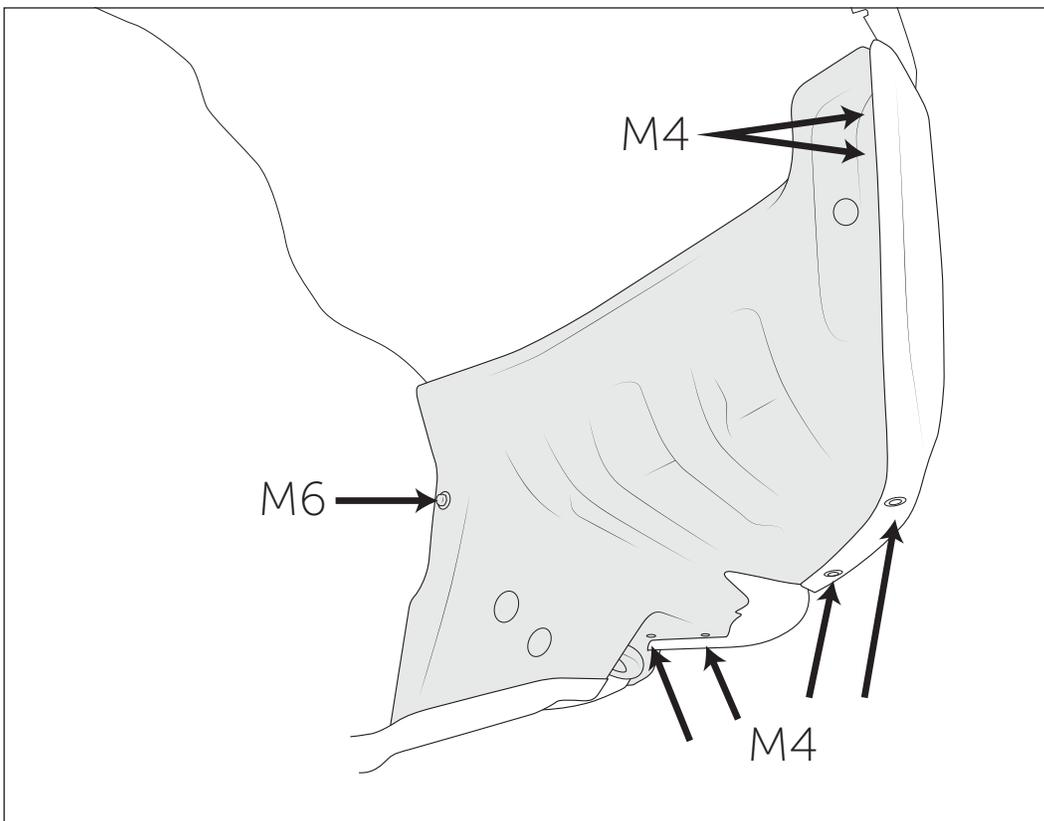

Figure 16
- Install Wheel Liner Closeouts using M6 hex bolts and M4 torx bolts (fig. 16).